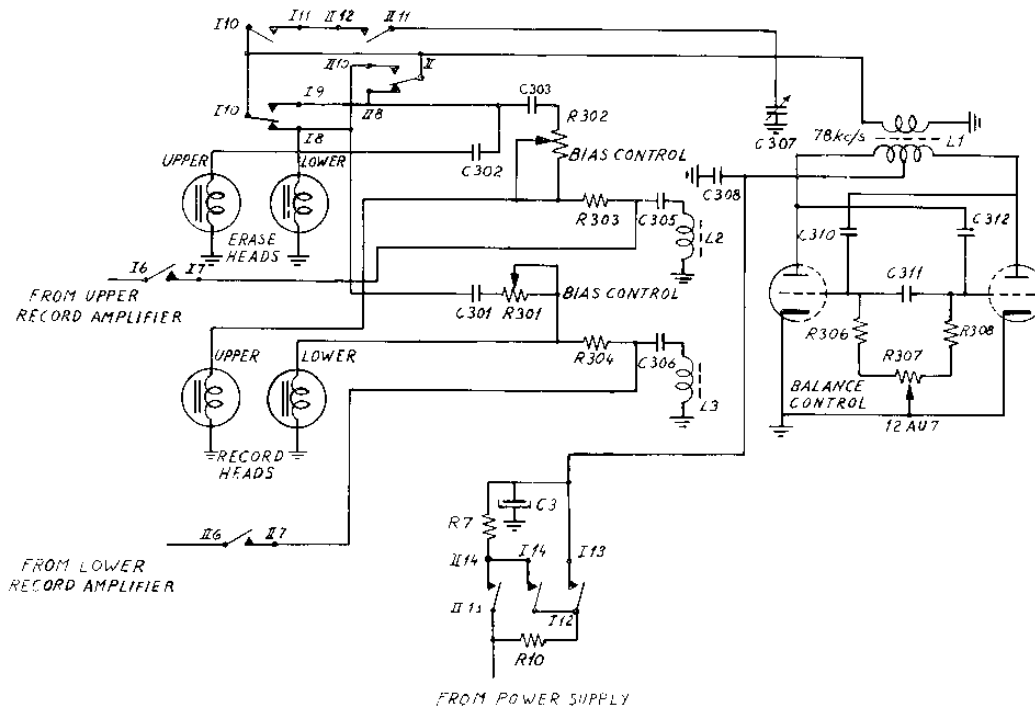

Fig. 27. Erase and Bias Circuitry
4.2.6 Erase and Bias Circuitry. (Fig. 27).